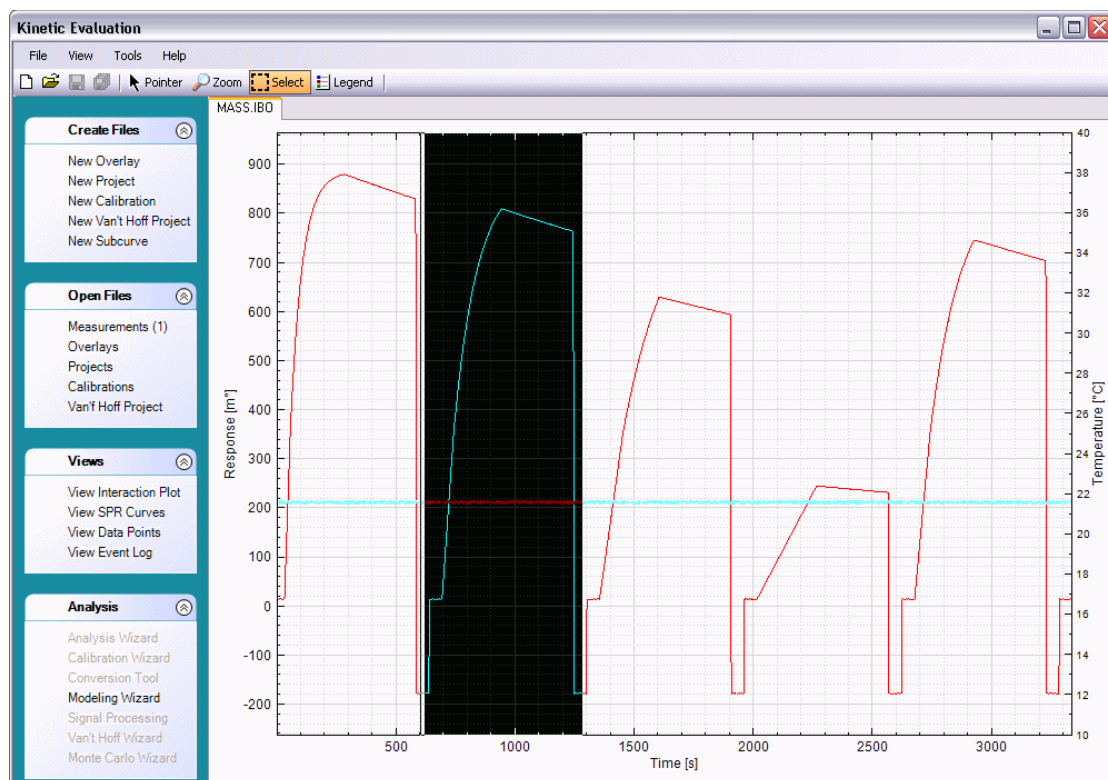

Figure 4.16 - Selected data to be copied to a sub curve
- c) Right-Click and drag the mouse pointer to select the region that you want to copy into a new measurement file (see Figure 4.16).